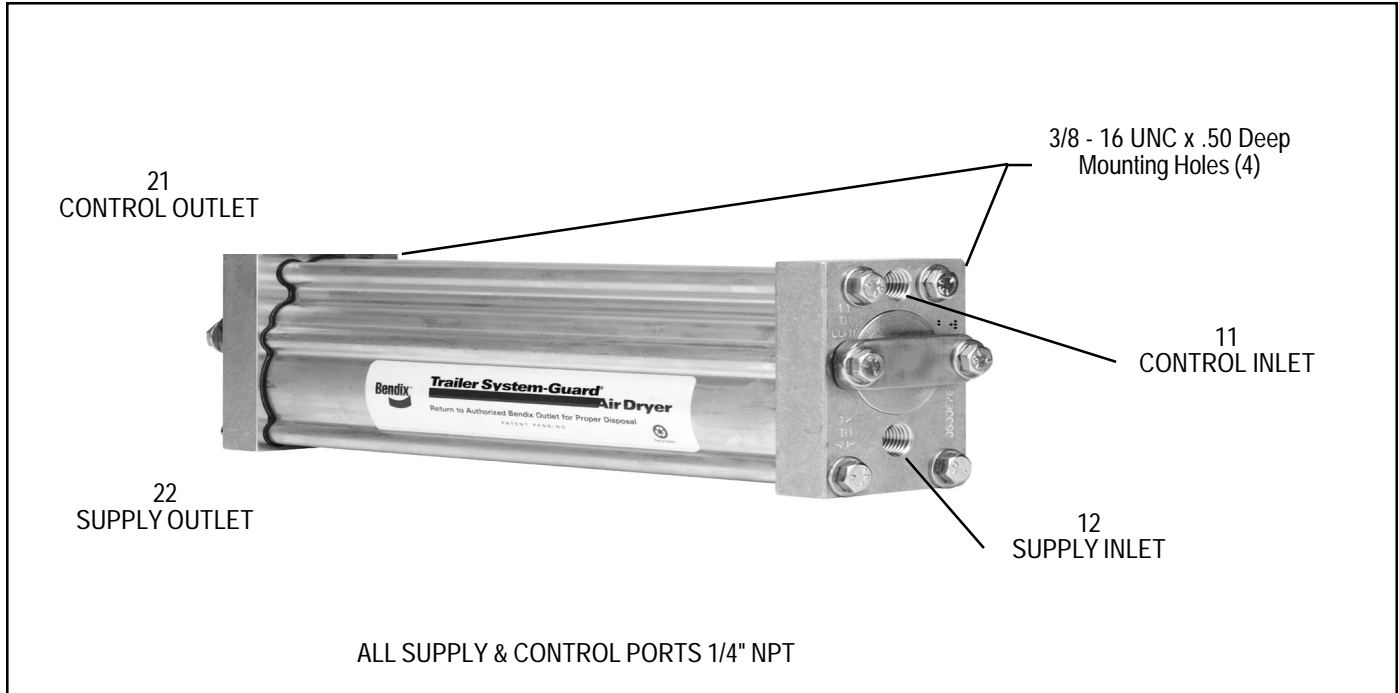

FIGURE 1 - TRAILER SYSTEM-GUARD™ AIR DRYER
2. Connect the supply and control lines to the Trailer System-Guard™ air dryer making sure to keep the control and supply circuits separate as shown. Do not switch lines end to end. All ports are identified as indicated in figures 1 and 2.